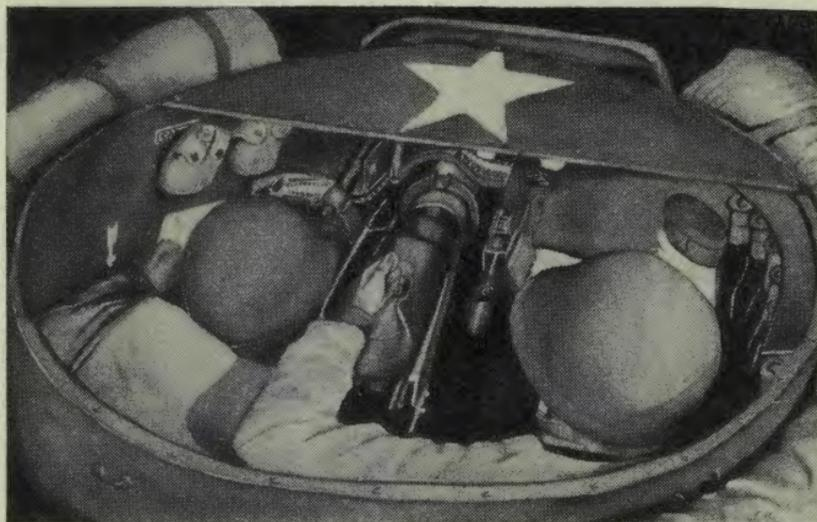

FIGURE 6.—Mounted action.
■ 17. **LOADING.**—The car commander grasps the cartridge at the base with his left hand, turns the projectile to the front, swings his arm toward the breech, and inserts the round in the opening. After the nose of the projectile enters the chamber, he propels the round forward by a quick push with his thumb and fingers on the base of the round, and moves the arm upward to clear the closing breechblock. (See fig. 6. Note position of fingers.) He then touches the leg of